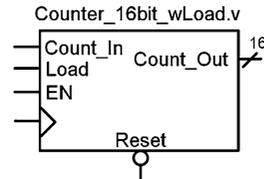

Fig. 9.3
9.2.2 Design a Verilog behavioral model for a 16-bit, binary up counter with enable and load using a single procedural block. The block diagram for the port definition is shown in Fig. 9.3.